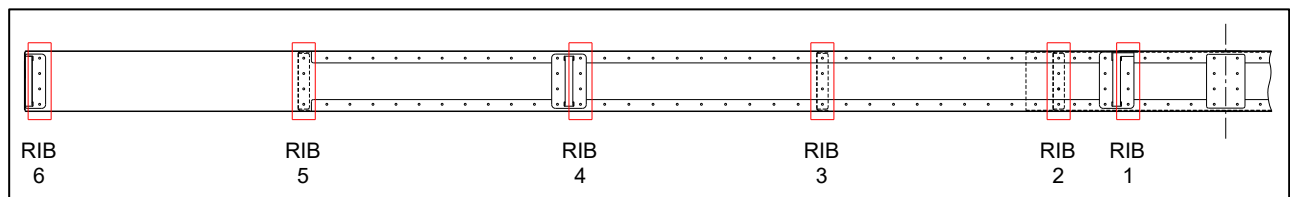

Figure 3: Spar Rivets to be Removed (Left side of stabilizer shown only)
- 13.3.2 Remove the 3 rivets (4 rivets for tailplanes with laminated hinge fittings) from the inboard flange of the inboard elevator hinge, LH and RH at Rib 1. See Figure 3.
- 13.3.3 Remove the rivets through the rear spar at ribs 2, 3, 4, and 5, LH and RH. See Figure 3.